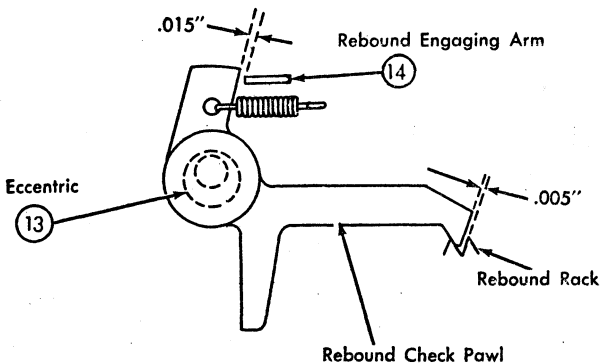

Figure 7. Rebound Clearance
13. **THE TAB REBOUND CHECK PAWL ECCENTRIC STUD** should be adjusted so that when a set tab stop is pressed against a latched out interposer, moving the interposer guide assembly to the left, there will be $.005''$ clearance between the face of the check pawl and the face of the rebound rack tooth. The high point of the eccentric must be kept in the rear half of its orbit (Figure 7).
.015" when the rebound check pawl has bottomed in its rack. Make this check with the interposer guide assembly pushed to the extreme left by means of a set tab stop (Figure 7).